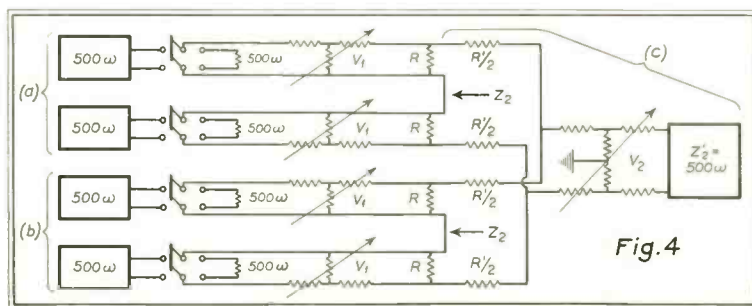

Fig. 4
To illustrate these types of mixers let us consider four fader positions of five-hundred ohms impedance each. Let us first break up the stations into two groups of two units each and combine each pair of units in a series arrangement as shown in Fig. 4 (a) and (b). Employing equation (3) we find that R is one-thousand ohms and Z_2 of each pair is $2000/3$ ohms. The latter value becomes the new source impedance and we shall combine these two new sources in parallel. Employing equation (5) we find that the value for each series compensating resistor, call it R' , is $1000/3$ ohms which, as shown in Fig. 4 (c), is split in half to be placed on each side of the circuit. The
output impedance of this combination, call it Z_2' , comes out to be, by equation (5), 500 ohms so that in the case of this four-position mixer we end up with the same standard output impedance of 500 ohms as that of the individual stations. Since a four-position mixer is a very common arrangement we can see that this series-parallel type should prove to be very popular in use. Further perusal of Fig. 4 will show that while the individual fader volume controls are of the unbalanced T-type, their arrangement in series provides a perfectly balanced output and, as will be shown later, a minimum of cross talk will result. The master gain control is, of course, of the balanced H type unless an isolation transformer is also employed.
FIG. 4. FRONT VIEW OF THE 100-H/250-D TRANSMITTER. NOTE THAT PANEL DOOR IS OPEN SHOWING LOCATION OF TUNING CONTROLS AND INDIVIDUAL PLATE-CURRENT METERS ON THE RECESSED SUB-PANEL.